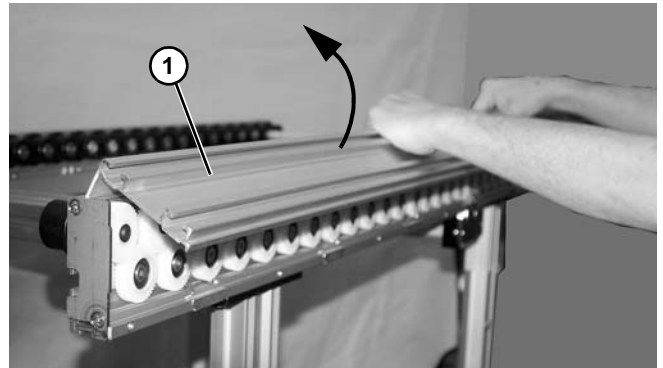

Figure 16
2. Rotate and remove side cover (**Figure 16, item 1**) from conveyor frame